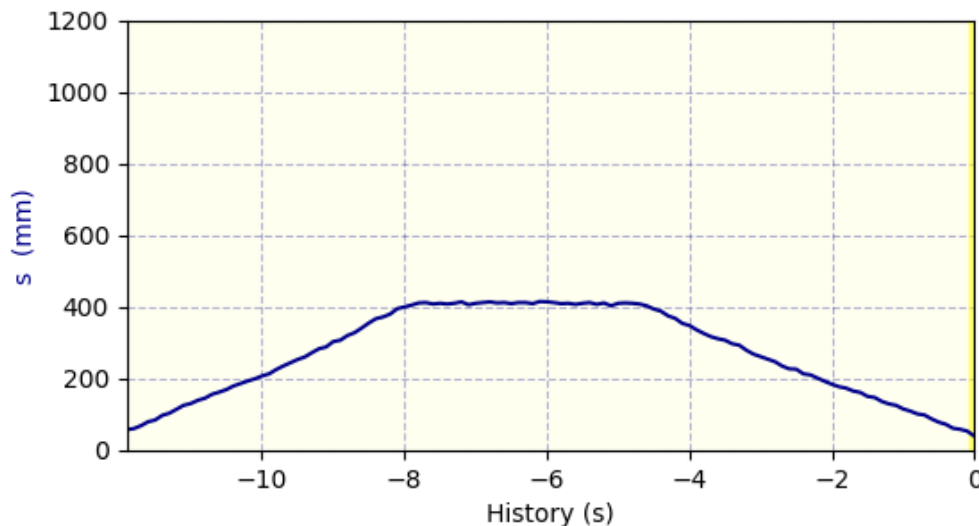

Figure 6. Position vs. Time graph saved as DataGraph.png file in the PhyPiDAQ-measurement window.
- In the example shown in the Figure 6. annotate the Cart’s position vs. time graph with descriptions of motion at each phase of data collection.
- The instantaneous velocity at any moment is the slope of the position versus time graph at that moment. What does the position vs. time graph in the Figure 6. suggests about the average and the instantaneous velocity at each phase of motion? Why are they similar or different?